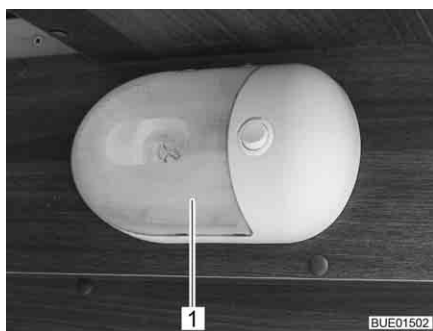

Fig. 271 Surface mounted light
- Carefully push the transparent cover (Fig. 271,1) together from both sides, pull it lightly from the switch and pull it off forwards.